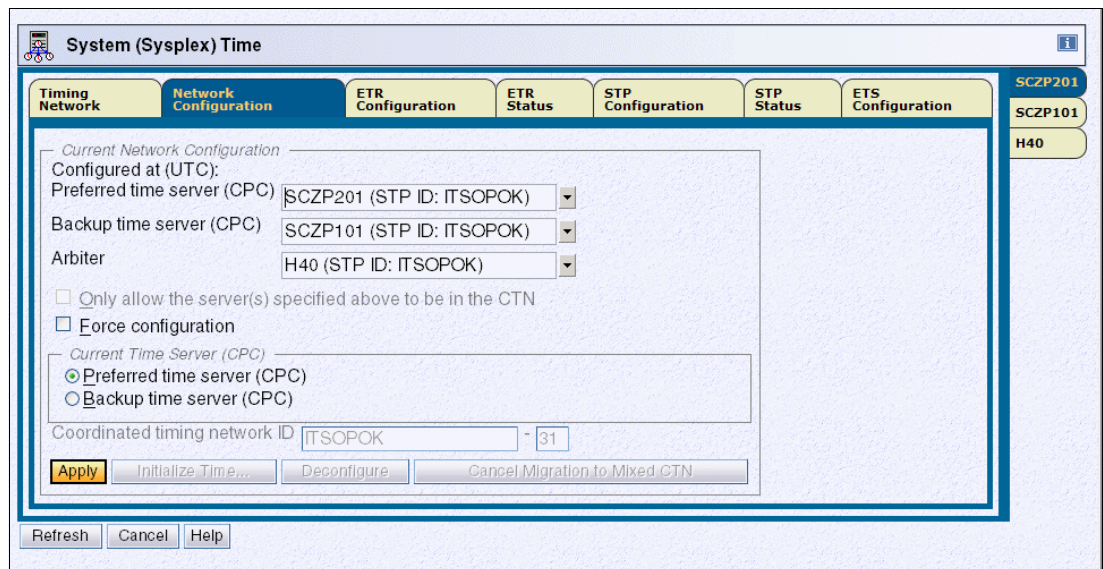

Figure 14-11 Network Configuration tab - Define roles (SCZP201)
3. Select the Preferred Time Server, Backup Time Server, and Arbiter from the drop-down menus, which list all of the STP-configured servers in the Mixed CTN (Figure 14-11).